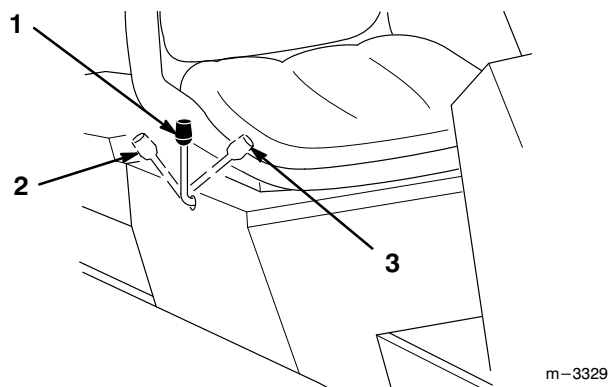

Figure 6
The implement lift lever (Fig. 6) is used to raise and lower various attachments.
2. Pull implement lift lever (Fig. 6) rearward to raise attachment to the desired height.
2. Push implement lift lever (Fig. 6) forward to lower attachment.